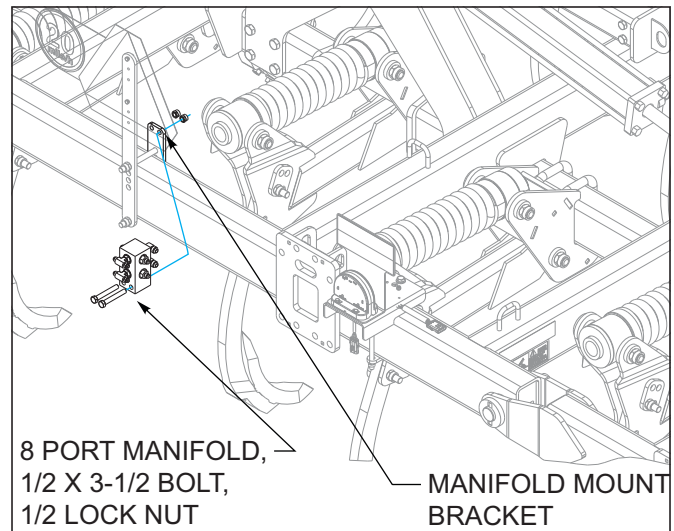

Figure 3-21: 8 Port Manifold Installation
10. On hydraulic 3BDT/Chopper Reel option, install the 8 port manifold to manifold mount with 1/2 x 3-1/2 bolts, 1/2 lock nuts as shown See Figures 3-21.